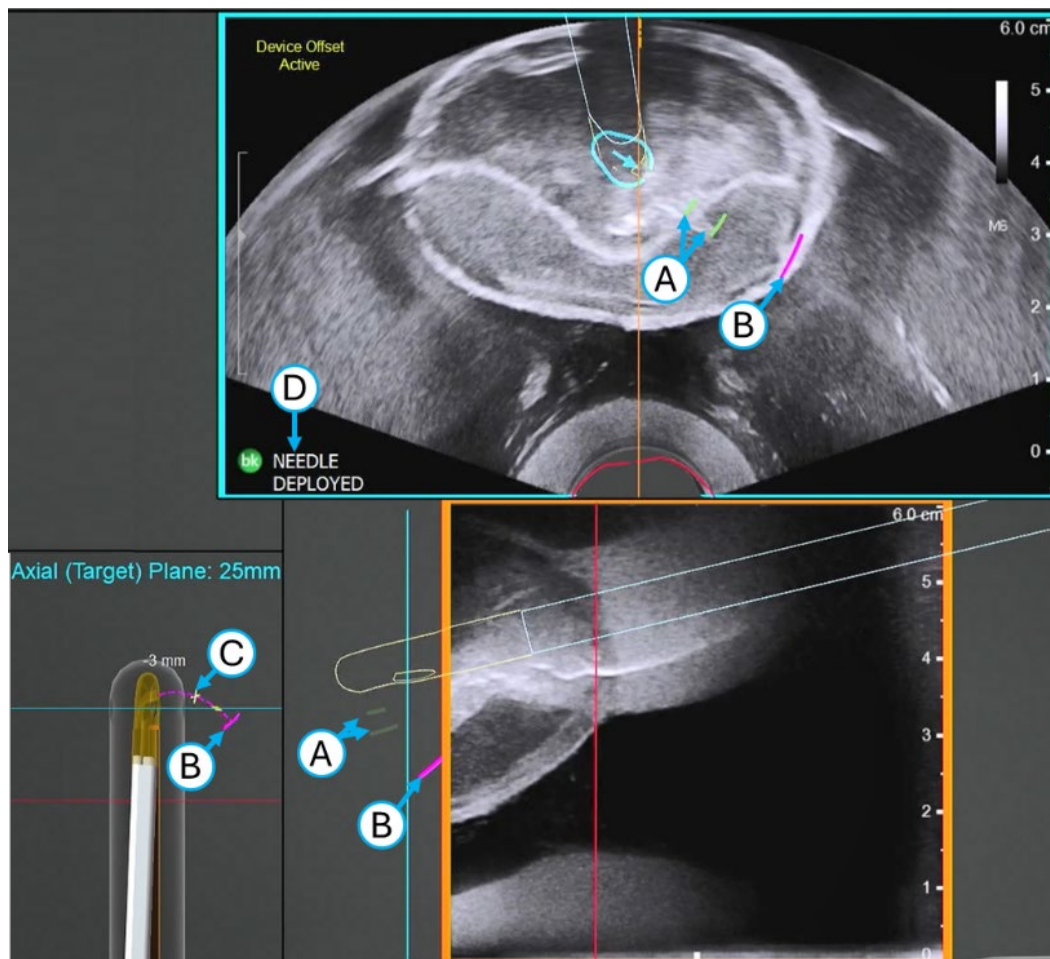

Figure 7-24: Visual Guidance Cues After Needle Deployment
- Guidance cues displayed **after needle deployment** are described in **Table 50** and **Figure 7-24**.